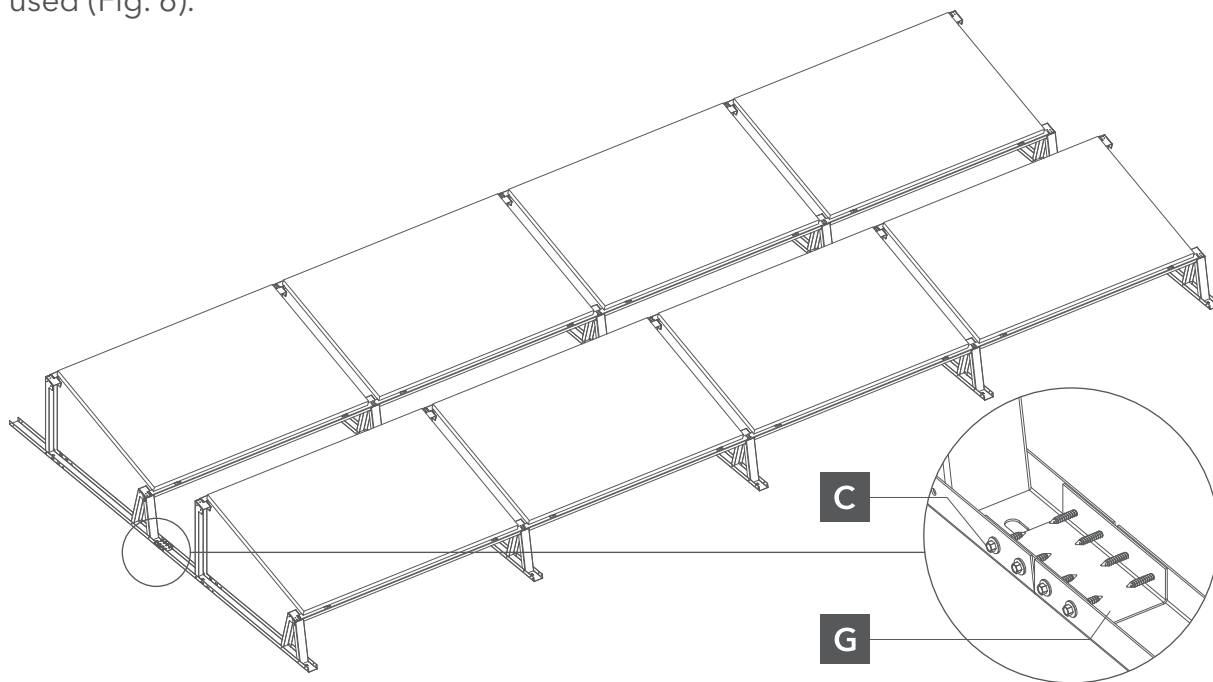

Fig. 6. connecting the mounting triangle with a connector.
- 3** If there are two or more rows of photovoltaic modules, it is necessary to connect the be connected by using a connector (Fig. 6).
used (Fig. 6).